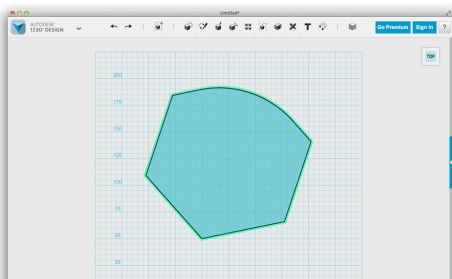

Figure 4-83 Select the sketch that you wish to extend
2. Select the sketch that you want to work with (Figure 4-83).